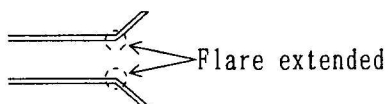

Fig. 2
②To tighten the flare nut, use a torque wrench.
③The flare part is extended and gas leakage may occur, if excessive force is applied to tighten the flare nut as shown in Fig. 2.